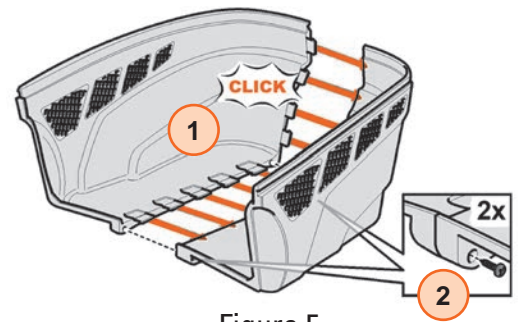

Figure 5
1. Attach the two lower parts of the grass catcher together until they click and lock into position ① (see Figure 5).